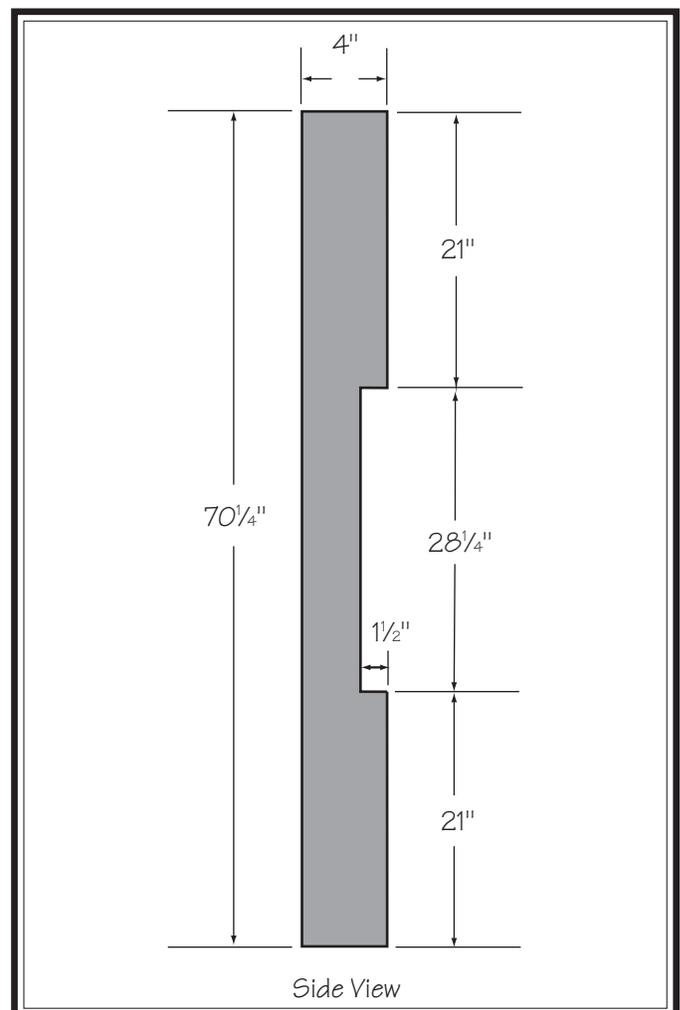

Figure 103. Dimensions of coplanarity gauge.
1. Make "Coplanarity Gauge" shown in **Figure 103**.